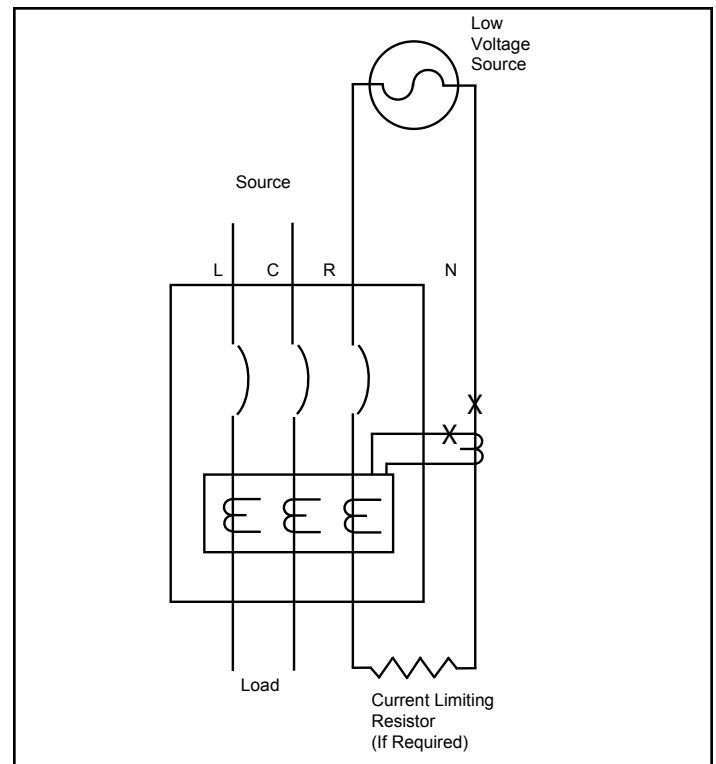

Figure 7-1b. Connections for Ground Fault No-Trip Test with a Four Wire System.
7.3.5 If the system is a 4-wire system with a neutral current sensor, apply the same current as described in paragraph 7.3.4 through one phase of the breaker, returning through the neutral sensor, as shown in Figure 7-1b or 7-1e (4-pole). The breaker should not trip and the alarm indicator, if supplied, should not operate. Repeat the test on the other two phases.